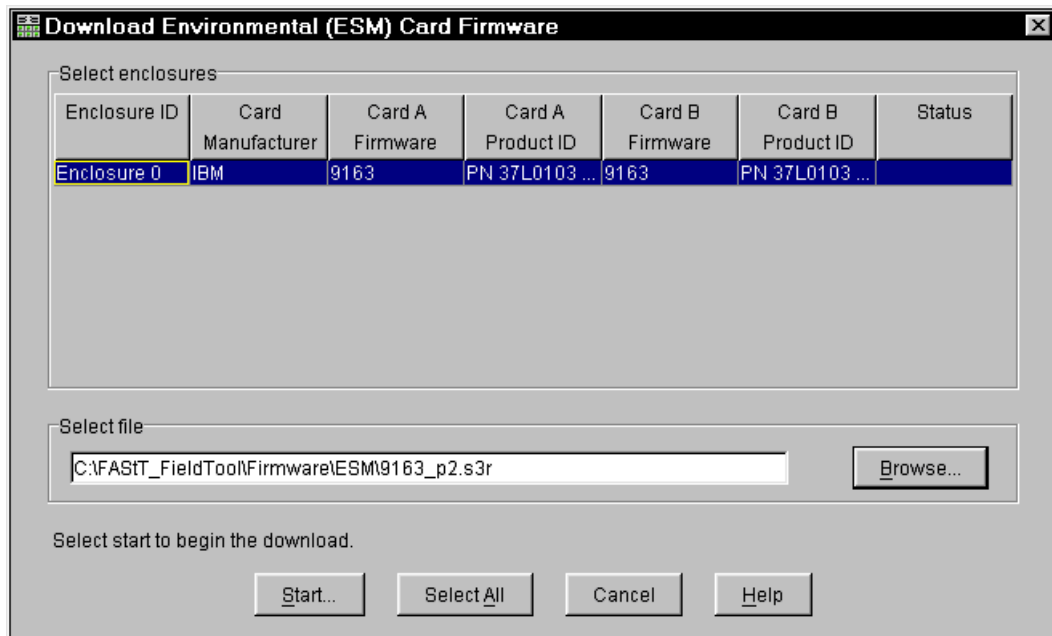

Figure 4-24 Field Tool to select the ESM boards
2. A new window opens showing you all attached EXP storage enclosure. As with the drives, highlight all lines with the same product and choose the correct firmware file to be downloaded to the ESM boards (Figure 4-24).